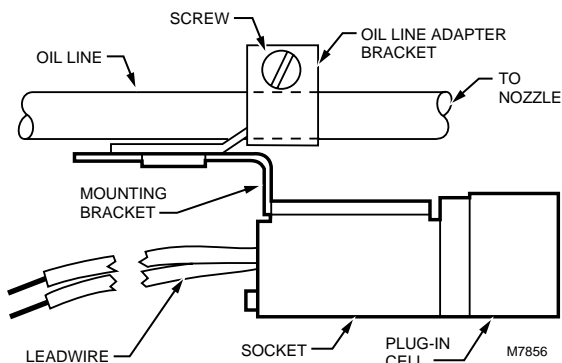

Fig. 5. Use oil line adapter bracket to mount C554A on to oil line.
- 6 Mount the oil line adapter bracket on the oil line using the screw and nut provided (Fig. 5).